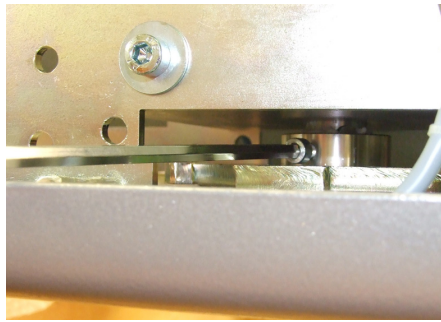

Fig. 21: Remove the fixing screw
1. Turn the screw on the drive shaft using a size SW 6 hexagon wrench until the first fixing screw Fig. 21) becomes visible.